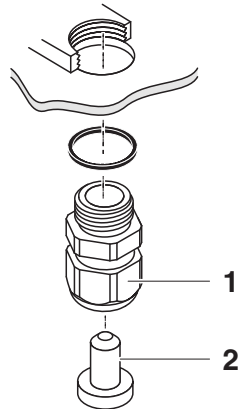

figure 3-16 Closing the cable opening
- 10 Screw the remaining cable glands with the sealing rings into the remaining free openings and close them with the enclosed blind plugs (pos. 2 in figure 3-16) and tighten the cap nuts (pos. 1) if they are not used.